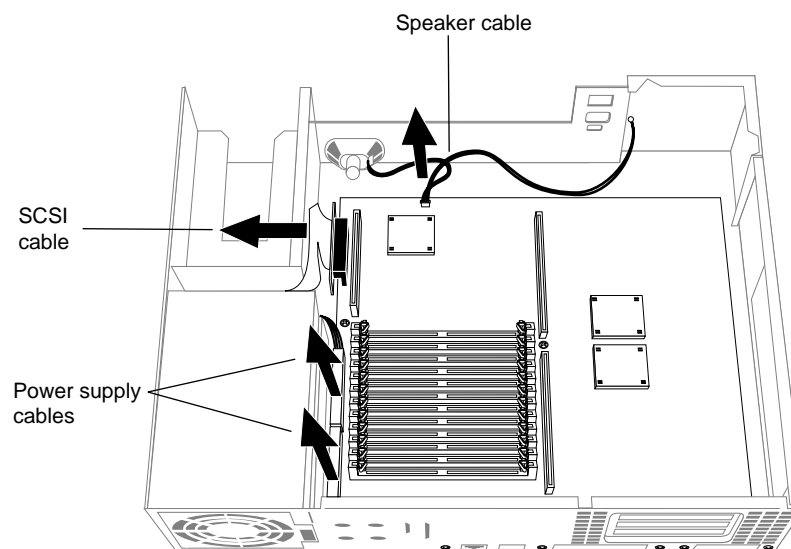

Figure 8-38 Disconnecting the Cables From the CPU Baseboard
- Facing the back of the system, disconnect the SCSI cable, the two power supply cables, and the speaker cable from the board, as shown in Figure 8-38.